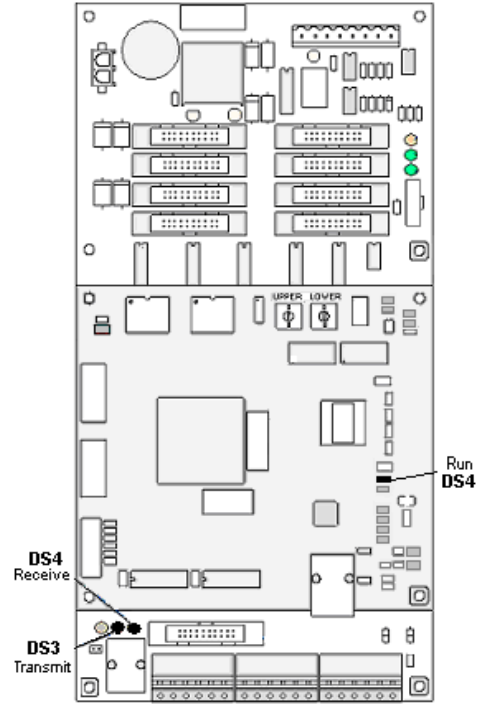

Figure 30: Controller Component Layout
Diagnostic LEDs are located at various places on the controller. The following table details some essential LEDs to monitor and the information that each LED provides. The LED name and number are noted in **Figure 30**.
- Check diagnostic LEDs on the controller for Power and Run (**Figure 30**).